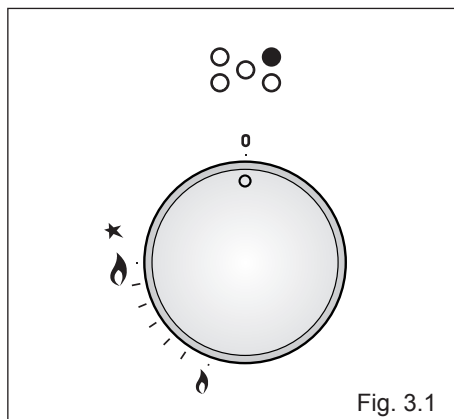
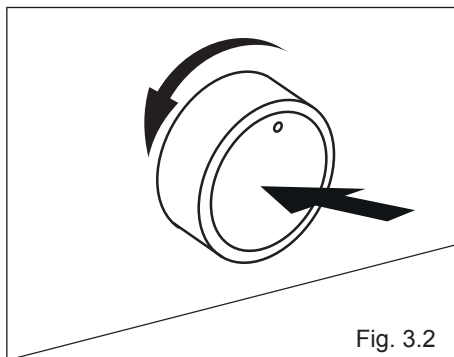

Fig. 3.1
Fig. 3.2
Gas flow to the burners is adjusted by turning the knobs (illustrated in fig. 3.1) which control the safety valves.
1. Press in the corresponding knob and turn counter-clockwise (fig. 3.2) to the full flame position marked by the  symbol (fig. 3.1); hold the knob in until the flame has been lit.